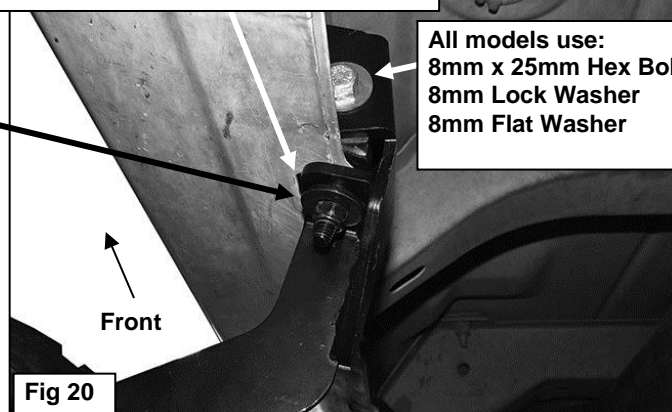

Fig 20
10. Line up the side tab on the Lower Bracket with the threaded hole in the side of the Upper Bracket. Attach the Lower Bracket to the Upper Bracket with (1) 8mm x 25mm Hex Bolt, (1) 8mm Lock Washer and (1) 8mm Flat Washer, (**Figure 20**). Leave loose at this time.